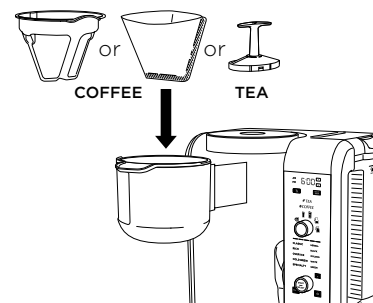

Fig. 11
- 2 Place the coffee permanent filter or a #4 paper cone filter in the COFFEE filter holder. If using a paper filter, first ensure the permanent filter is removed from the filter holder. Then fold the paper filter along the seams, open it fully, and firmly press it into the filter holder making sure it is fully seated (Fig. 11).
- 2 Place the tea permanent filter in the TEA filter holder (Fig. 11). When using tea bags, you may remove the tea permanent filter if more space is needed in the brew basket.